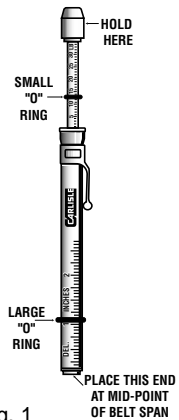

Fig. 1
1. Measure the span length of the drive. (See Fig. 1). Set the large "O" ring at  $1/64$ " for each inch of belt span. For example, set the large "O" ring  $1/4$ " for a span length of 16", at  $1/2$ " for a span length of 32", at 1" for a span length of 64" etc.